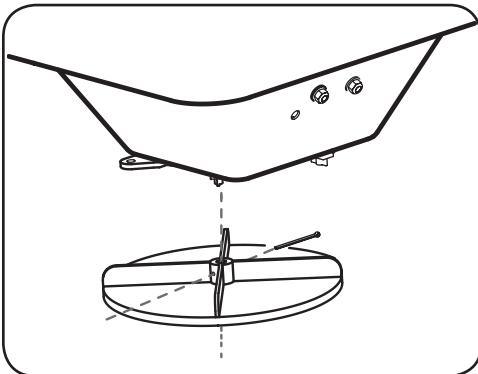

Figure 1-6
4. Secure the spinner disc to the motor shaft with a cotter pin. See Figure 1-6.